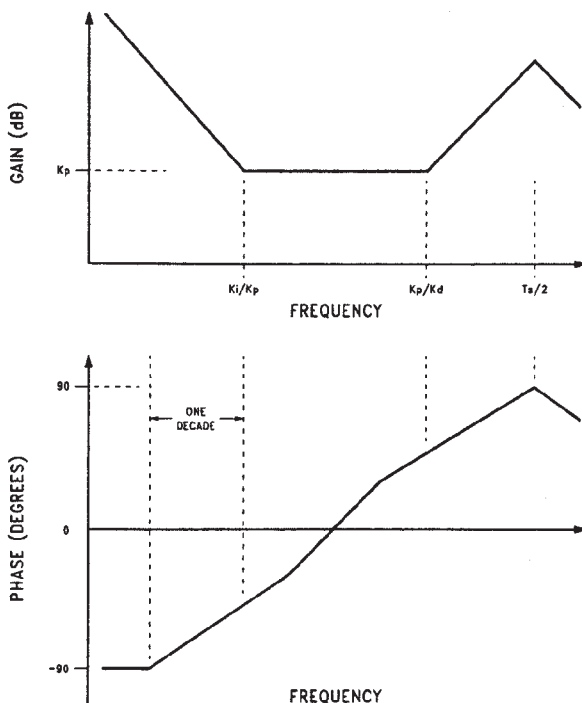

FIGURE 17. Bode Plots of PID Transfer Function
The Bode plots for this function (shown in Figure 17) show the effect of the individual terms of equation (1). The proportional gain, K_p , provides adjustment of proportional gain. The derivative term K_d increases the system bandwidth but more importantly adds leading phase shift to the control loop at high frequencies. This improves stability by counteracting the lagging phase shift introduced by other control loop components such as the motor. The integral term, K_i , provides a high DC gain which reduces static errors, but introduces a lagging phase shift at low frequencies. The relative magnitudes of K_d , K_i and loop proportional gain have to be adjusted to achieve optimum performance without introducing instability.